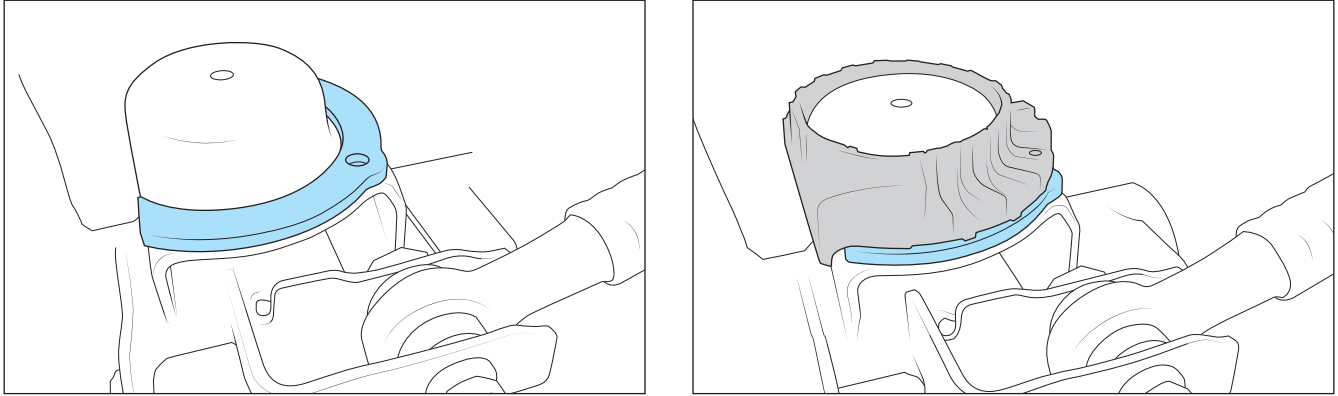

Figure 18
- A. Remove passenger lower spring isolator by carefully prying it upward away from axle. Install front spring shim to bottom of isolator, passing molded stud through hole in shim. Reinstall assembly onto axle spring seat (Fig 18). JL has more weight on right side of vehicle than left, so this helps it sit level. Shim sits underneath isolator on axle. NOTE: Not used on Ecodiesel. Proceed to step 10-B.